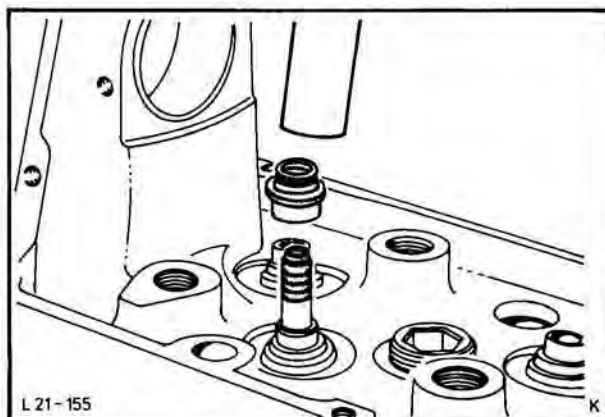

Fig. 159. Fit valve stem seals using Special Tool 21-007
15. Lubricate valve stem seals and install on stems provided on new cylinder head, using Special Tool 21-007, Fig. 159. Remove adhesive foil from valve stem.